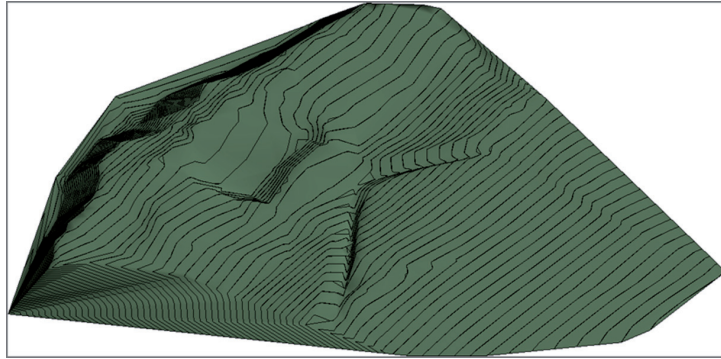

FIGURE BC3.35: The new toposurface in Revit
9. Go to a 3D view. Your topography should look like Figure BC3.35.